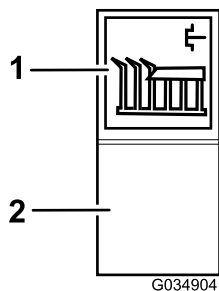

Figure 35
**Cutting unit drive engagement:** Press the top of the cutting-unit-drive switch to the on position (Figure 35).
**All cutting unit drives disengagement:** Set the switch to the off position (Figure 35).